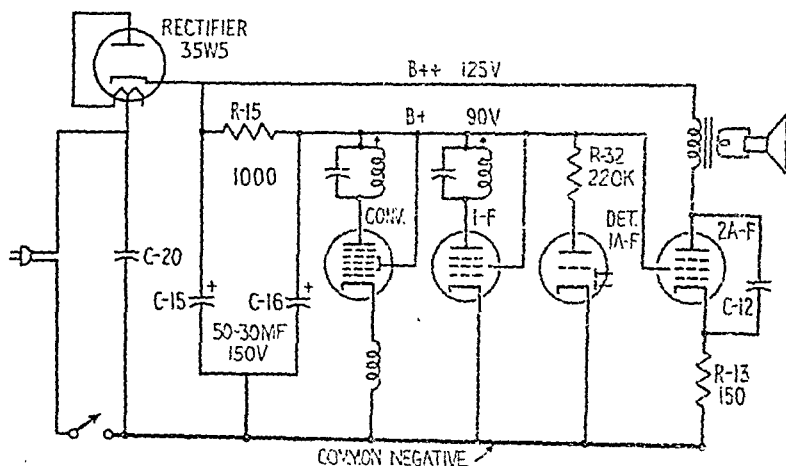
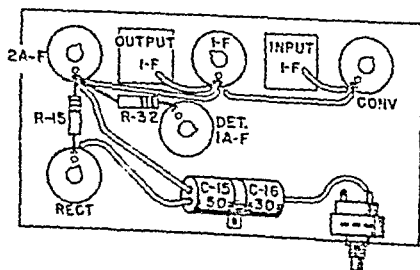
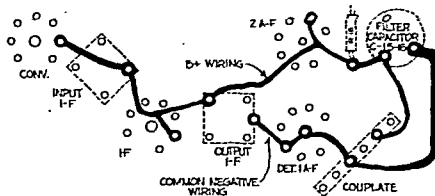

FIG. 9-12. Skeleton B circuit of a typical a-c/d-c receiver.
FIG. 9-13. Bottom view of a conventionally wired a-c/d-c receiver showing the B+ wiring.
FIG. 9-15. Bottom view of a printed circuit receiver showing the $B+$ wiring and some of the common negative wiring.
The output filter capacitor may also short. This condition will be found by no voltage at B+ and almost normal voltage at the rectifier cathode. The rectifier tube may not be harmed owing to the intervening resistance of the filter resistor. The short, however, is not necessarily in the output filter capacitor. A skeleton diagram showing the B+ circuits of a typical a-c/d-c receiver is given in Fig. 9-12. The short may be anywhere on the B+ line. For example, if one of the primary leads in one of the i-f transformers were to touch the shield can, all points on the B+ line would show a shorted condition to common negative. A procedure for determining the location of the short is given in the next section.
The skeleton diagram of Fig. 9-12 will help to solve another short which may be confusing. Suppose capacitor C-12 in the plate circuit of the second a-f tube were to short-circuit. The receiver would not play, there would be a heavy current drain through the short, and cathode resistor R-13 would overheat. A voltage check would give the clue. The voltage at rectifier cathode would be low—about 70 volts, indicating a heavy drain, or a weak rectifier. The overheating resistors point to the heavy drain. The voltage at B+ would measure about 60 volts—low, to be sure, but normally lower than the voltage at the rectifier cathode. This places the short in the second a-f stage. Continued voltage checking shows approximately 30 volts at the second a-f plate, and the same 30 volts at the second a-f cathode. An ohmmeter now confirms the short in plate capacitor C-12.
How to check for shorts on the B+ line. The diagram of Fig. 9-13 is a layout diagram of the bottom view of a conventionally wired a-c/d-c
receiver, showing only the B+ wiring and the parts associated with it. In Fig. 9-12, note that the screen grid pins of all tubes are connected to B+. In Fig. 9-13, trace all B+ wiring to the screen grid terminals of the tube sockets.
In a printed-circuit receiver, although the schematic diagram is the same, a short on the B+ line requires a different servicing technique. This is because the printed wiring does not converge at the screen pins, as is the case in a receiver with conventional wiring. The drawing of Fig. 9-15 shows the B+ and common negative wiring of a typical printed-circuit receiver. Refer to this diagram and also to Fig. 9-12 and note how the B+ printed wiring takes in the screen pins of the tubes, one lead on each i-f transformer, the filter resistor, the filter capacitor, and the couplate which in-
Troubles common to the filter resistor. As can be seen in Fig. 9-12, filter resistor $R-15$ carries the B current of the converter, i-f, and detector-first a-f tubes. Normally, it carries this load without difficulty. However, any short in the $B+$ line puts an overload on the resistor, causing it to overheat. This may cause it to change in value. Therefore, whenever a short in the $B+$ line is corrected, filter resistor $R-15$ should be carefully checked and replaced if there is any sign of harm caused by the overload.
- In the B circuit breakdown of Fig. 9-12, assume that an ohmmeter check from common negative to B+ gives a reading of 15 ohms. List some of the likely locations of the short. Outline a procedure that could be used in tracking down the short.